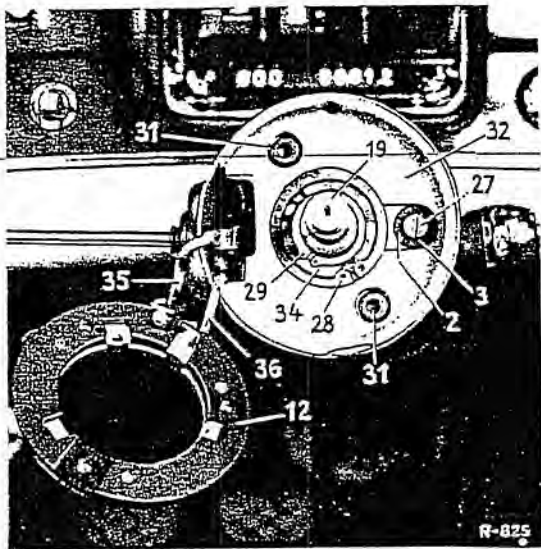

Fig. 26-15/2
3. Take the contact ring (12) out of the steering column jacket (Fig. 26-15/2).
4. Take the rubber cover (22) out of the steering column jacket. Unscrew the cover cap (26), using Wrench 187 589 01 01 and remove the shift lever (24) together with the ball socket (25) (Fig. 26-15/1).